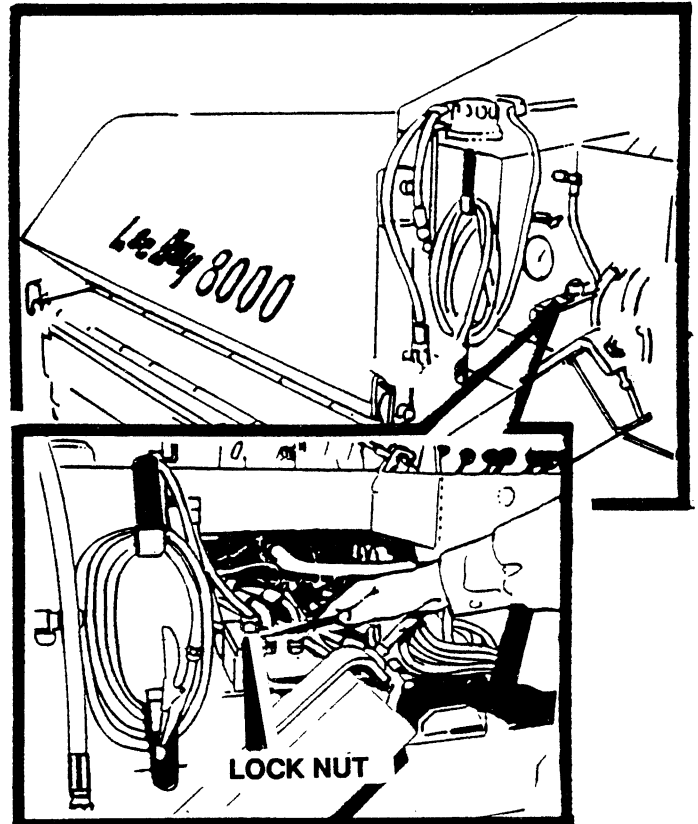

FIGURE 43
3. Look at drive chain through the top of the frame. If drive chain has a whip in it, adjustment is necessary. See figure 43.